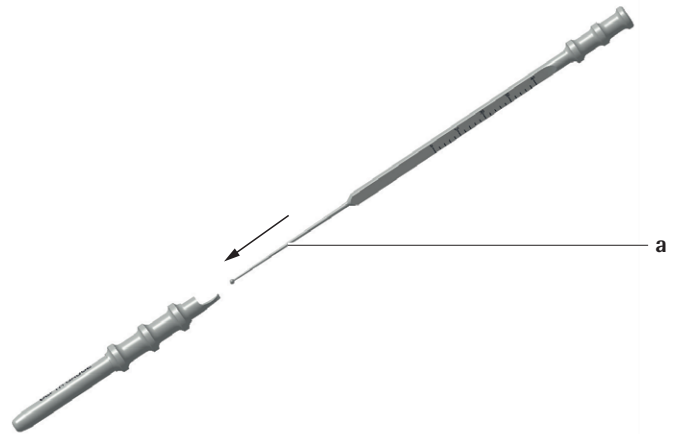

Fig. 66
- ▶ Insert the inner shaft a: turn the shaft until the orientation of the groove enables you to insert the shaft, see Fig. 66.